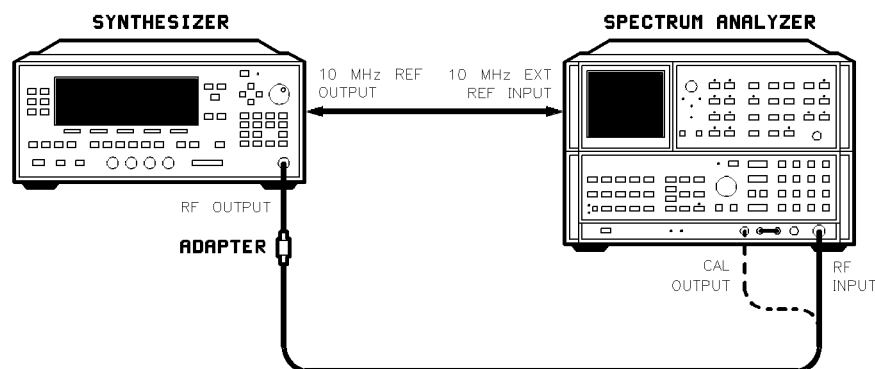

Figure 3-35. Square Wave Symmetry Adjustment Setup
1. Connect the equipment as shown in Figure 3-35. Preset both instruments and let them warm up for at least one hour.